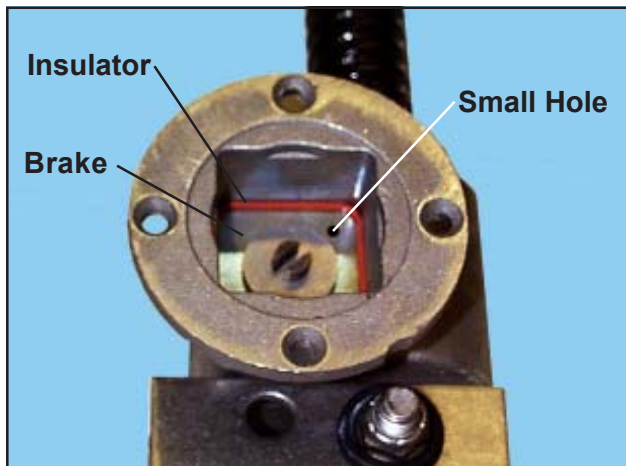

Figure 50. Brake in the Gearbox
4. Place the hook on your paper-clip tool into the small hole in the brake, or under one of the corners, and pull the brake out of the gearbox (Figure 50). Take the red rubber insulator out too.